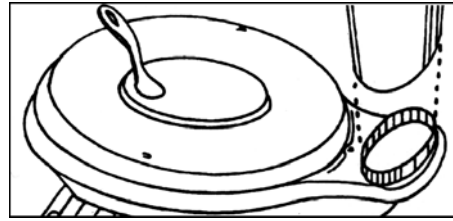
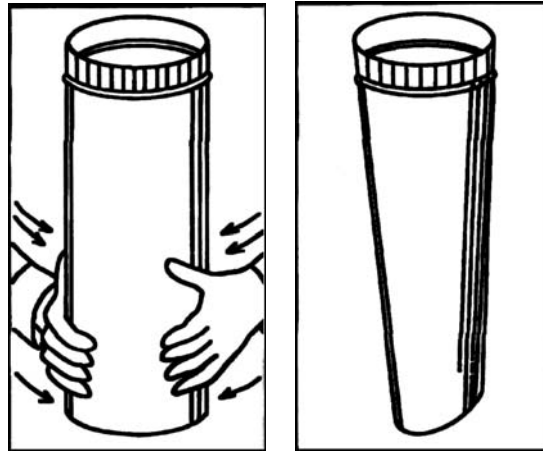
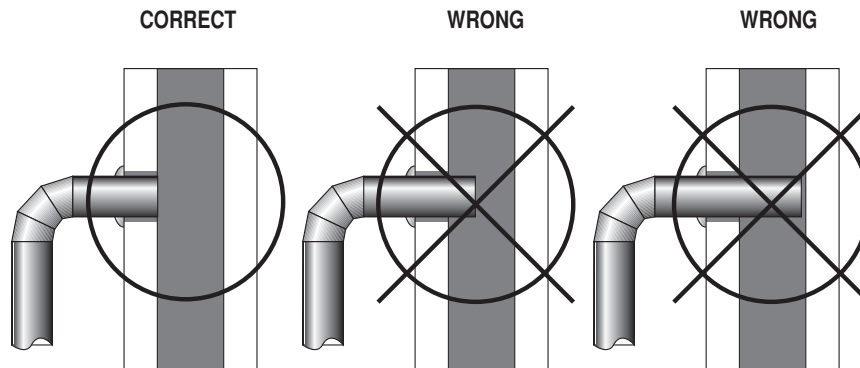

Fig. 5 – Flue Outlet Collar
Fig. 6 – Hand-form pipe to oval shape – Fig. 7
Fig. 8 – Stovepipe/Flue Connections
1. The stove must be placed on solid concrete, solid masonry, or when installed on a combustible floor a solid surface floor protector listed to UL1618 Type 2 with a minimum of 1" thick and a R-value of 3.0 or greater, such as Hy-C or Imperial Model UL 5463BK must be used. (NOTE: To calculate R-values of equivalent alternative materials, see page 15). The base must extend at least 18" beyond the front, rear and sides of the stove, and **must** extend underneath and 2" beyond each side of horizontal connector pipe if it is elbowed towards a wall (see figure 5 and consult local building codes and fire protection ordinances.)
- The smooth end of the stovepipe fits over the cast iron flue collar at top rear of stove (fig. 5).
- Hand form lower end (fig. 6) of stove pipe to oval shape (fig. 7) and slide over flue outlet collar as shown in figure 5.
- Secure stove pipe to flue collar with at least three (3) sheet metal screws and seal with stove cement.
- The pipe cannot extend into the chimney flue (figure 8).
- Secure pipe/elbow sections with three (3) sheet metal screws at each joint to make the piping rigid. Screws may be no more than a maximum of 3"/76mm apart.
- It is recommended that no more than two (2) 90 degree bends be used in the stovepipe installation. The use of more than two 90 degree bends may decrease the amount of draw and possibly cause smoke spillage. Where possible, use only corrugated (nonadjustable) elbows. These provide a better seal.
2. Install a metal or fire clay (5/8" minimum thickness) thimble. Make sure the thimble is flush with the inner surface of the chimney liner and does not protrude into the flue (see figure 8 on page 6).
4. Install the stovepipe into the thimble as far as possible without extending past the flue lining (see figures 8 & 9 on pages 6 & 7).